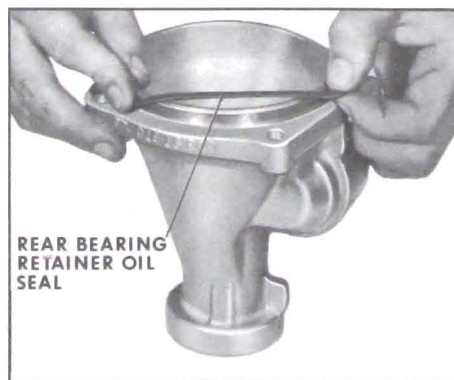

Figure 5-136
2. Remove rear bearing retainer oil seal. See Figure 5-136.